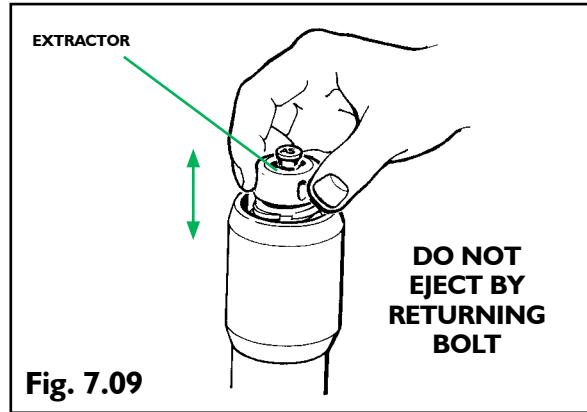

Fig. 7.09
- 5.2 Pull the extractor up and then push back down (See Fig 7.09)